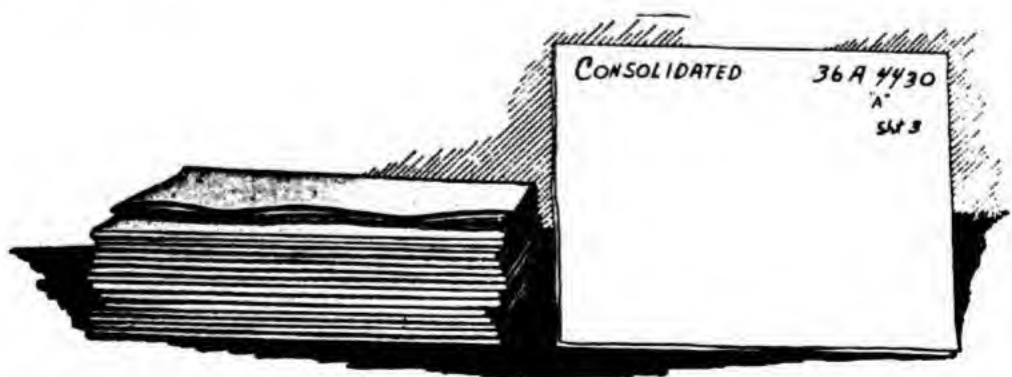

Figure 1-6.—Contractor's name provides further identification on a print.
6. When the duplicate drawing number or numbering area fails to appear on the face of a print, all such prints should be folded face side or printed side in, so that the print number is on the underside of an outside fold and can be seen when you raise one corner of the blueprint. (See fig. 1-6.)
7. Specifications for blueprints to be used by the Armed Forces require that the blueprints be so marked as to have the identifying information visible when the prints have been folded as prescribed in this section. However, some blueprints may be folded according to other procedures, depending on the usages of the manufacturer. In such cases the proper information should be marked or stamped on the print as necessary. (See fig. 1-6.)